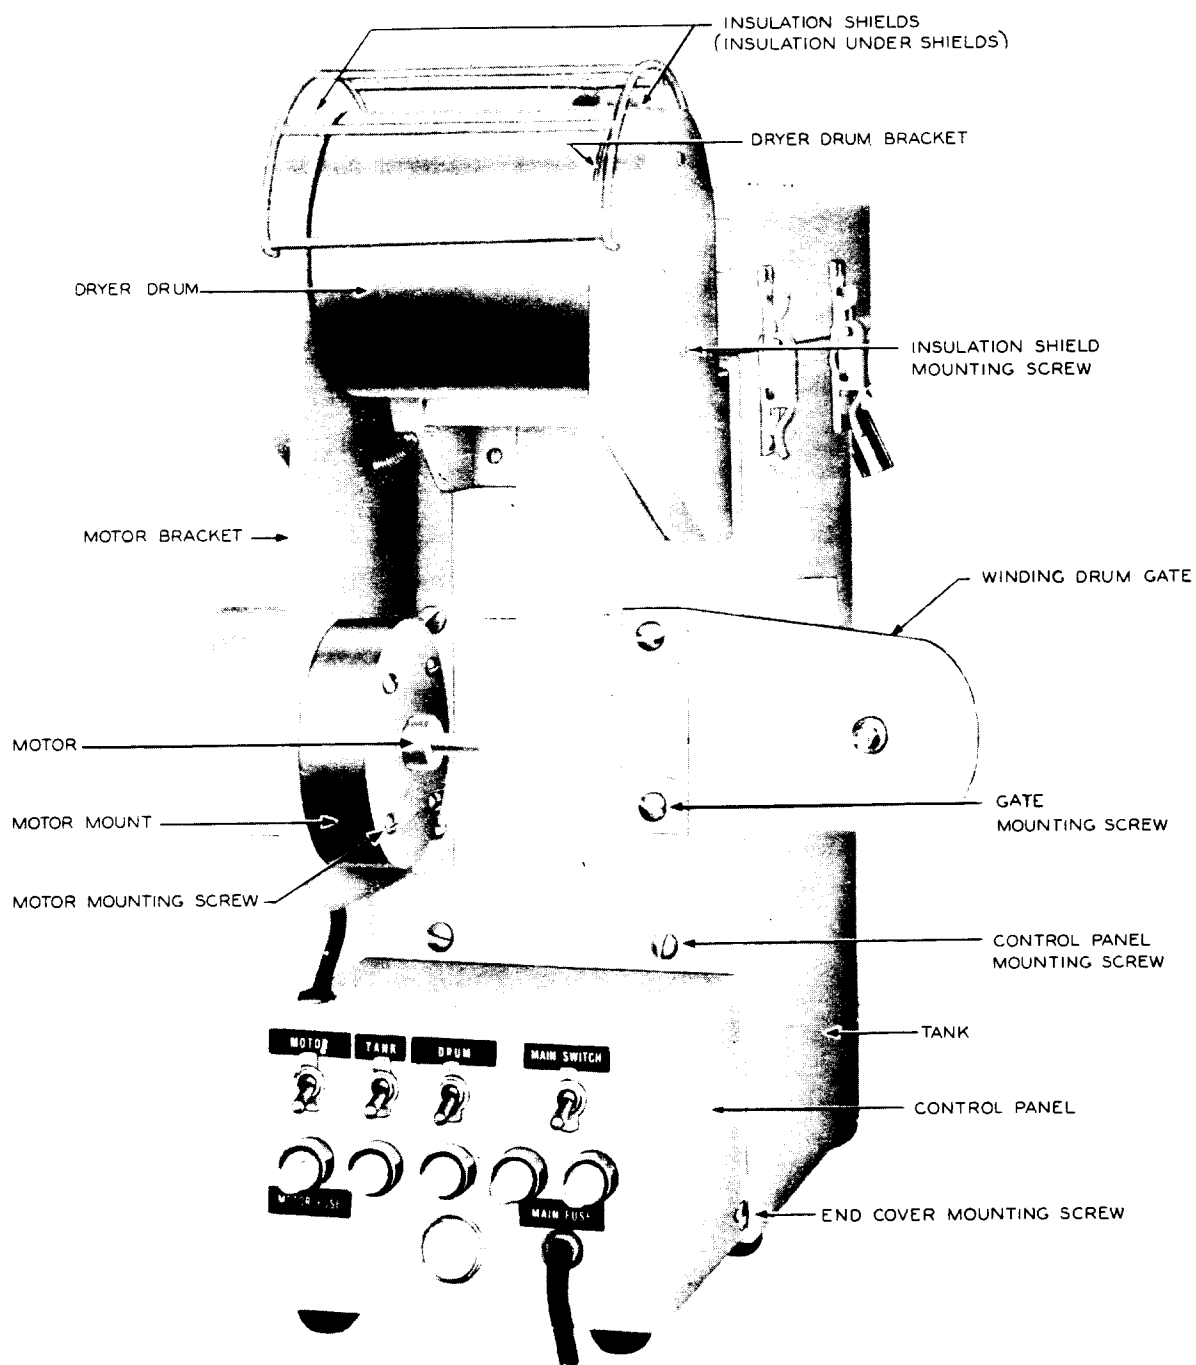
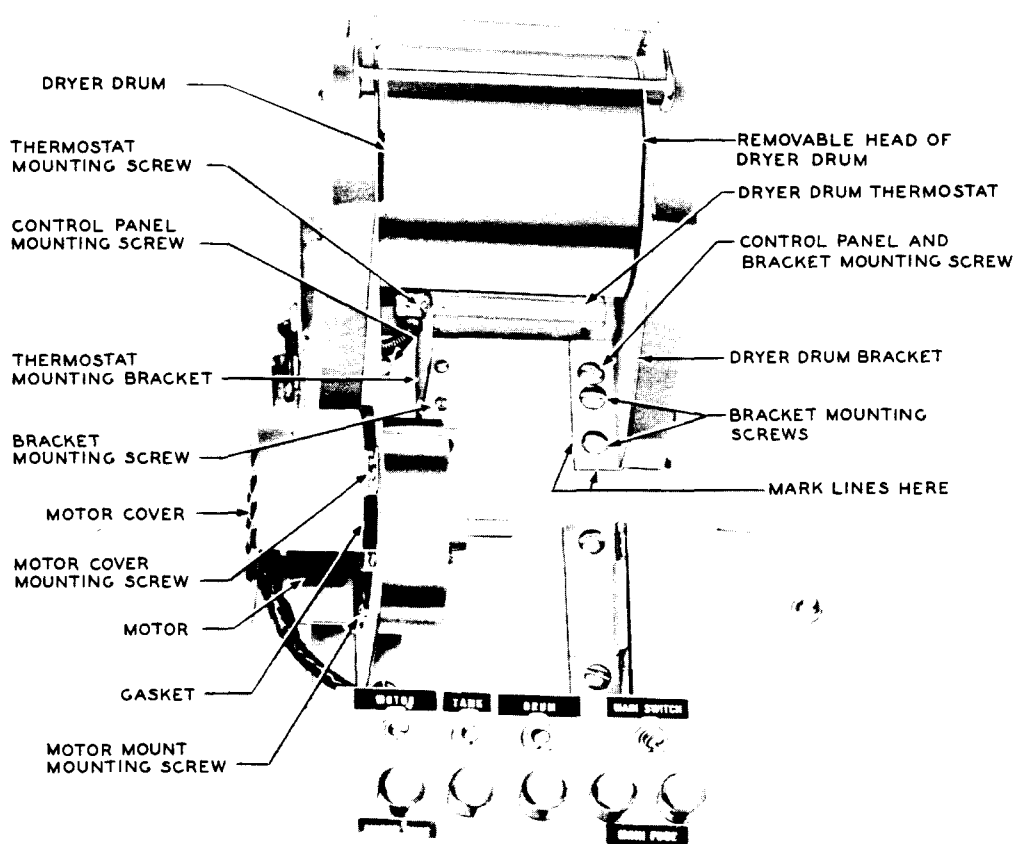

Fig. 8 — KS-14778 Photo Processor — End Cover and Winding Drum Removed
Fig. 9 - KS-14778 Photo Processor — Partial View Showing Motor and Associated Parts
3.03 If it is necessary to remove the end cover from the processor to replace any parts shown in Fig. 8, disengage the tank cover latches, loosen the end cover mounting screws with the 5-inch regular screwdriver, and lift the end cover from the processor.
3.04 If it is necessary to remove the access panel at the bottom of the processor control panel (Fig. 8) in order to replace parts, first make sure that the stabilizer and developer cans and the processor tank are empty and that the trunk cover is latched in place. Turn the processor on its side with the motor uppermost. Remove the access panel mounting screw with the 4-inch regular screwdriver.
3.06 *Insulation:* To replace the insulation under the insulation shields shown in Fig. 8, remove the shield mounting screws with the 4-inch regular screwdriver, and remove the shield. Remove the insulation. Using the old insulation as a pattern, cut slits in the new insulation with the B splicer's scissors so that the insulation can be fitted around the lugs on the bracket. Mount the insulation and insulation shield and securely tighten the mounting screws.
(1) Remove the insulation shield mounting screws using the 4-inch regular screwdriver, and remove the insulation shield and insulation at each end of the drum. Unscrew the wire connectors from the heater leads at the left end of the drum, remove the connectors, and free the ends of the leads.
(2) Referring to Fig. 9, mark lines on the processor with a sharp pencil to indicate the position of the bracket at the right end of
(1) Remove the insulation shield mounting screws at the left end of the dryer drum using the 4-inch regular screwdriver and remove the insulation shield and insulation. Unscrew the wire connectors from the thermostat leads, and free the ends of the leads. Referring to Fig. 9, remove the thermostat bracket mounting screws with the 4-inch regular screwdriver and remove the thermostat and bracket. Remove the thermostat mounting screws with the 4-inch regular screwdriver and remove the thermostat from the bracket.
(2) Substitute new parts as required, and remount the parts in reverse order of removal. Position the thermostat mounting
3.09 Motor Cover and Gasket: Referring to Fig. 9, remove the motor cover mounting screws using the 4-inch regular screwdriver, and remove the motor cover and gasket. Remove the gasket from the motor cover. Substitute new parts as required and remount the parts in reverse order of removal.
(1) Remove the access panel at the bottom of the processor control panel as covered in 3.04. Note the terminals to which the motor leads are connected, and disconnect the motor leads. Remove the motor lead strain relief ring.
(2) Turn the processor upright. Unlatch the winding drum gate and remove the winding drum. Remove the motor cover mounting screws using the 4-inch regular screwdriver and remove the motor cover and gasket. Remove the motor mount mounting screws shown in Fig. 9 using the 4-inch regular screwdriver. Remove the motor mount and motor and pull the motor leads through the grommet in the control panel. Remove the motor mounting screws shown in Fig. 8, using the 4-inch regular screwdriver, and remove the motor from the motor mount.
(3) Substitute new parts as required, and mount the parts in reverse order of removal. When mounting the motor mount on the motor bracket, take care that the holes in the bracket and motor mount for the motor cover mounting screws line up. Turn the processor on its side with the motor uppermost, and connect the motor leads to the proper terminals. Remount the strain relief ring and the access panel, and turn the processor upright.
(1) Remove the gate mounting screws shown in Fig. 8, using the 5-inch regular screwdriver, and remove the gate. If the hinge pin is to be replaced, remove the pin using the R-2959 wrench to start it out of the hinge if necessary.
(2) Substitute new parts as required and mount the parts in reverse order of removal. Partially tighten the gate mounting screws. Remount the winding drum, and check that the drum bearing pin on the gate lines up properly with the associated hole in the winding drum. Shift the gate slightly, if necessary, to obtain this alignment. Tighten the gate mounting screws securely.
3.18 *General:* To replace these parts it is necessary to remove the control panel from the tank of the processor. To do this, remove the access panel from the bottom of the control panel as covered in 3.04. Using the KS-8097 wrench, remove the control panel mounting nuts and lockwashers adjacent to the tank heater and thermostat. Turn the processor upright, and remove the control panel mounting screws shown in Fig. 8 and 9, using the 5-inch regular screwdriver. Carefully withdraw the control panel from the tank so that the heater and thermostat do not bind in their receptacles in the tank. Lay the control panel on its side with the motor uppermost.